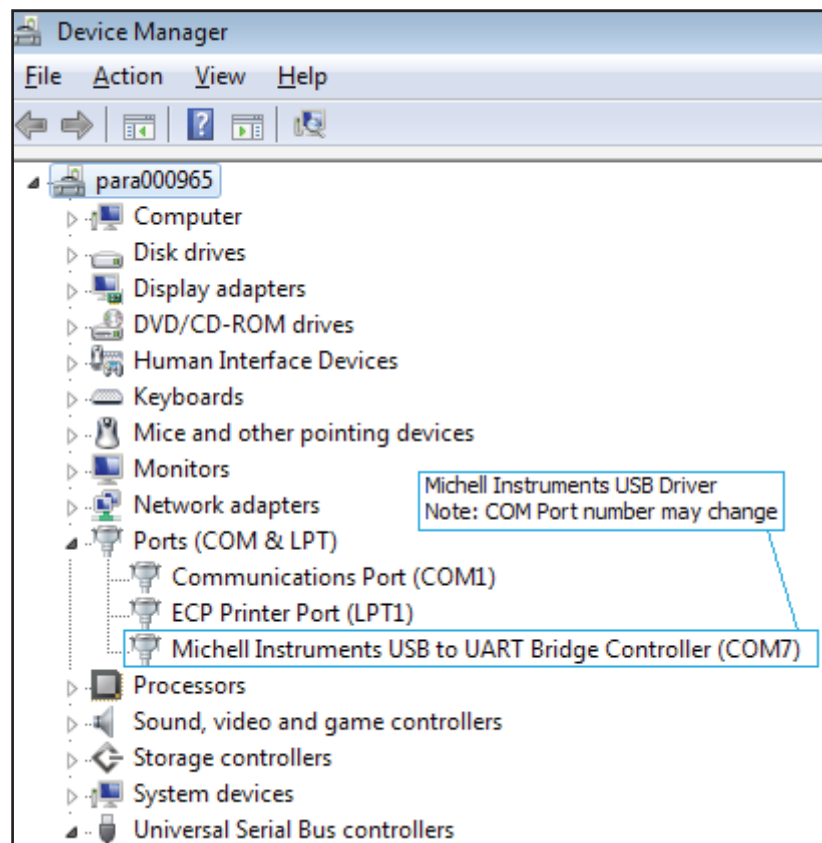

Figure 33 Windows Device Manager Screen
2. Windows will recognize the instrument and automatically install the relevant drivers. If the driver installation has been successful then the Windows Device Manager Screen will list the following driver (see *Figure 33*):